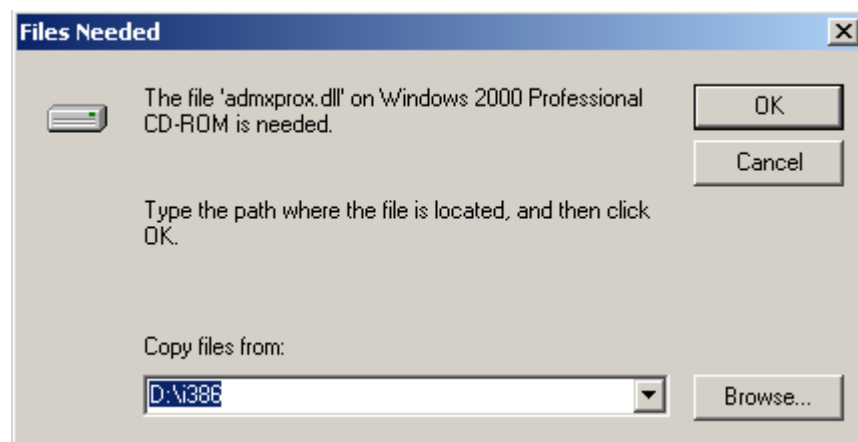

Figure 2.6. Files Needed Dialog Box
3. If additional files are necessary, the **Files Needed** dialog box will appear, as shown in **Figure 2.6**. In the **Copy files from** field, type in the drive on which your computer runs CD-ROMs, plus "**i386**"; or click the **Browse** button to locate the **i386** folder on your CD-ROM drive. After locating the **i386** folder, click on it to have it appear in the **Copy files from** field. Insert the Windows 2000 Professional CD-ROM and click on the **OK** button on the **Files Needed** dialog box.